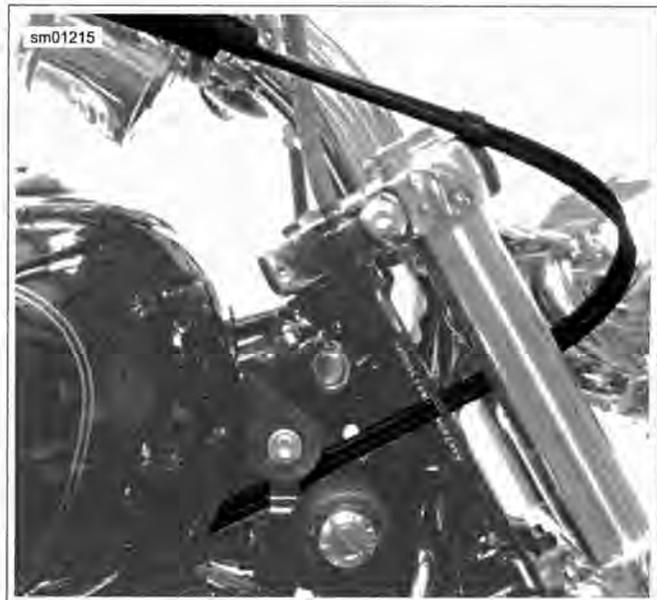

Figure 2-177. Throttle Control Cable Routing: XL Models
5. Install upper housing (9) over right handlebar and secure to lower housing using screws (7). Tighten screws to 35-45 in-lbs (4.0-5.1 Nm).
6. **XL Models:** See Figure 2-177. Route control cables forward from throttle control grip, forward of front fork upper bracket, downward between right slider tube and headlamp, rearward along right side of frame steering head and frame backbone, over ignition switch housing, between coil bracket and frame, and downward to induction module.